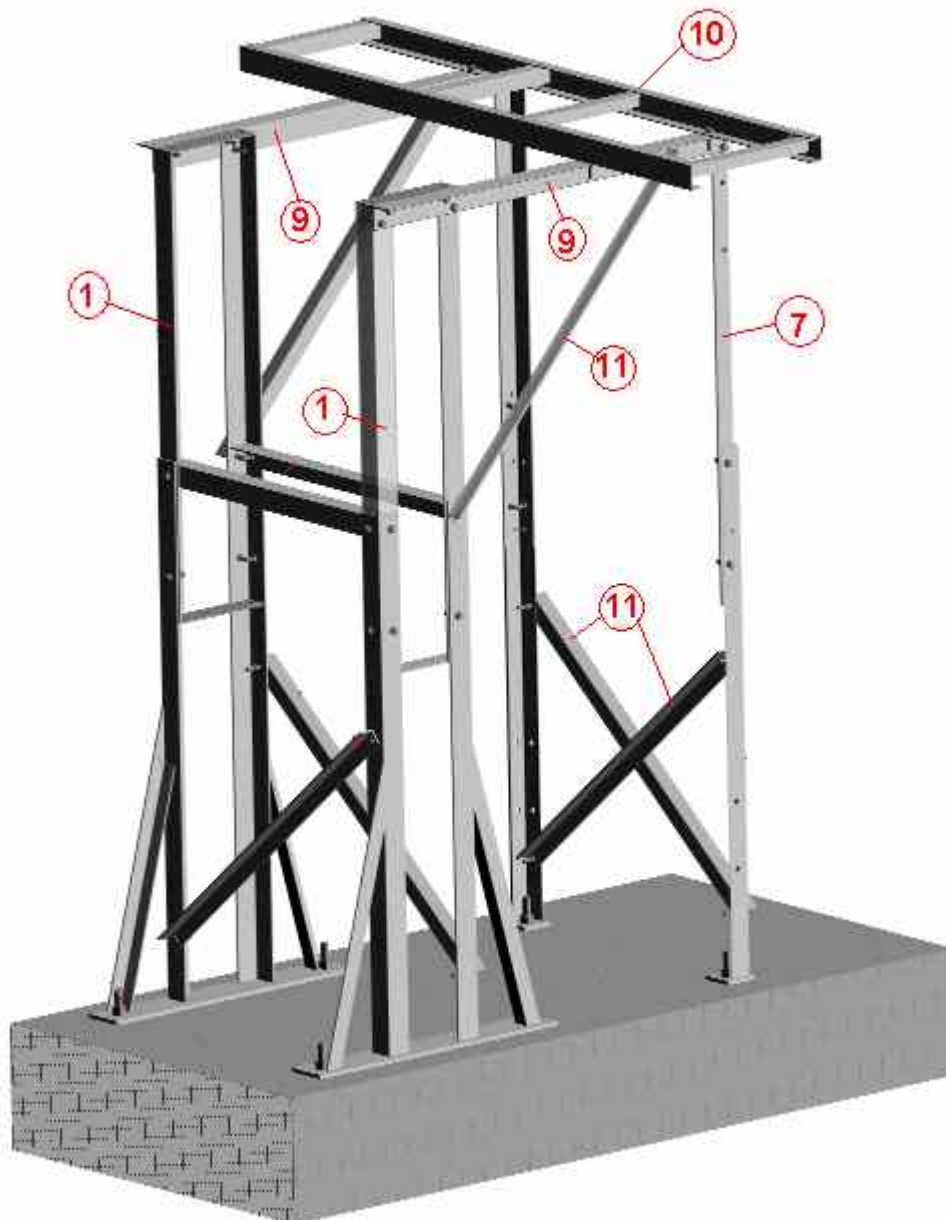

Fig. 15 Circuit-breaker Structure Assembly with CTs
- Slide Upper Leg (7) in Lower Leg assembly & assemble using M12 bolts, spring washers, plain washers & Hex Nuts.
- Fix Support-Angles(9) on Upper Leg Assembly(1) & (7) as shown in Fig.15
- Fix Cross-Angles (11)
- Fix CT Frame(10) on the Support Angles(9)